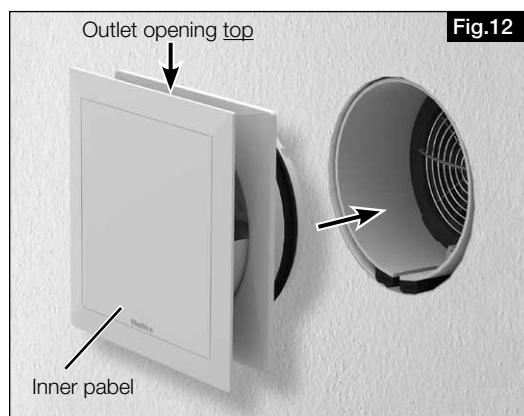

Fig.12
INSTALLATION STEP 3:**- Inner panel**The inner panel is completely open upon delivery and the outlet opening is at the **top** (see Fig. 12).**Pressing the inner panel will damage the connection cable!**
1. Insert the inner panel (open) into the wall mounting sleeve (see Fig. 12).